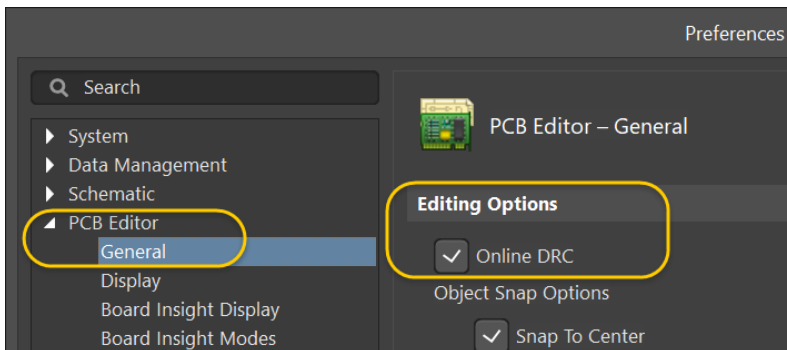

Figure 2. Online DRC preference
- b) Ensure that the **Online DRC** checkbox is enabled as shown in Figure 2.